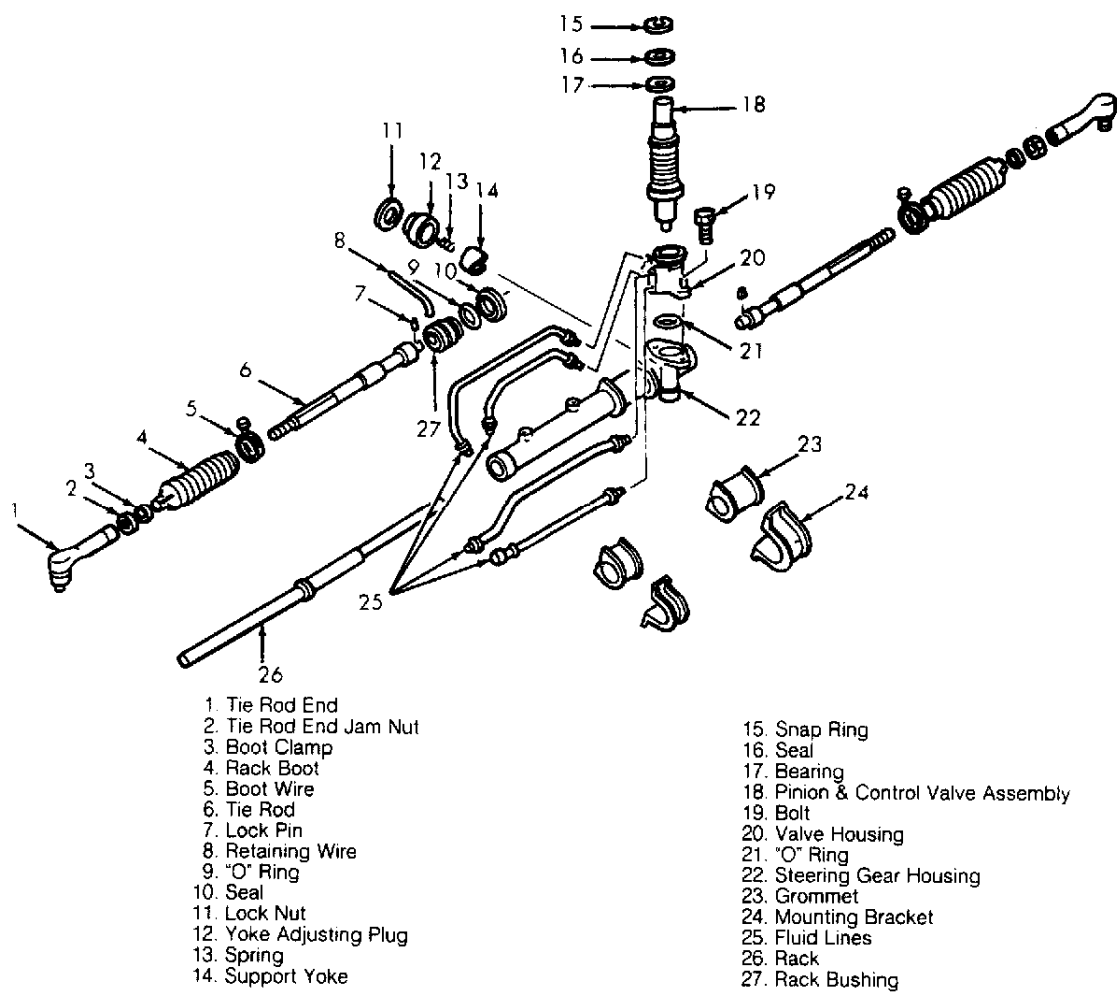

Fig. 3: Exploded View of Power Steering Gear (Festiva)
- Remove steering gear from vehicle and place in a soft-jawed vise. Remove fluid lines. See Fig. 3 . Place reference marks on left tie rod end and tie rod for reassembly reference. Loosen jam nut and remove left tie rod end. Remove outer boot clamps. Remove inner boot wires. Remove boots.